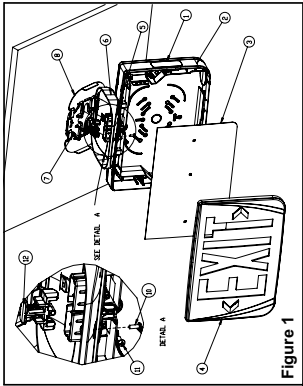
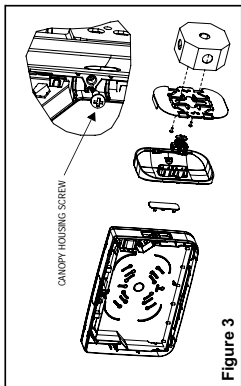

Figure 1
Figure 3
- b. Canopy required. Attach the spider plate to electrical box with the junction box screws. Remove appropriate hole plug. Feed AC supply leads through side or top opening and then through canopy. Remove the canopy lock(12) (if supplied). Snap canopy on top or side of frame (See Fig. 3). Re-install the canopy lock (if supplied). Screw canopy to frame(11). In the case where a canopy lock is supplied, you may refrain from screwing the canopy to the frame. However, for applications having a greater risk of exposure to abnormal impacts, we suggest to always use the canopy housing screw(11) (fig. 1 and 3). Make the proper wire connections. The "Quick-install" canopy is equipped with ribs allowing you to hang the unit on the spider plate to facilitate wiring (See fig.4). Feed the excess wire into the junction